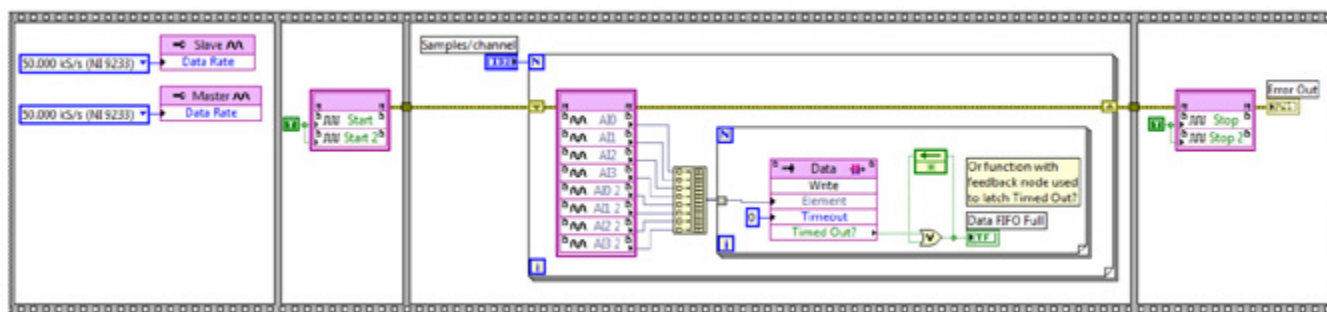

Figure 6.12. Block Diagram From Synchronizing NI 9233 Modules.lvpj
2. On the block diagram, create a property node for each I/O module and use the Data Rate enum to specify the rate, as shown in Figure 6.12. Note that even though the I/O modules share the same sampling rate, you must create a unique Data Rate enum for each property node (right-click on the property node for each module and select “create constant”). This ensures that the enum integer is properly matched to the expected rate for the specific I/O module.
4. Place all channel reads from all synchronized modules in the same I/O node as seen in Figure 6.12. Using this process, you can mix and match any of the existing simultaneous delta-sigma modules.